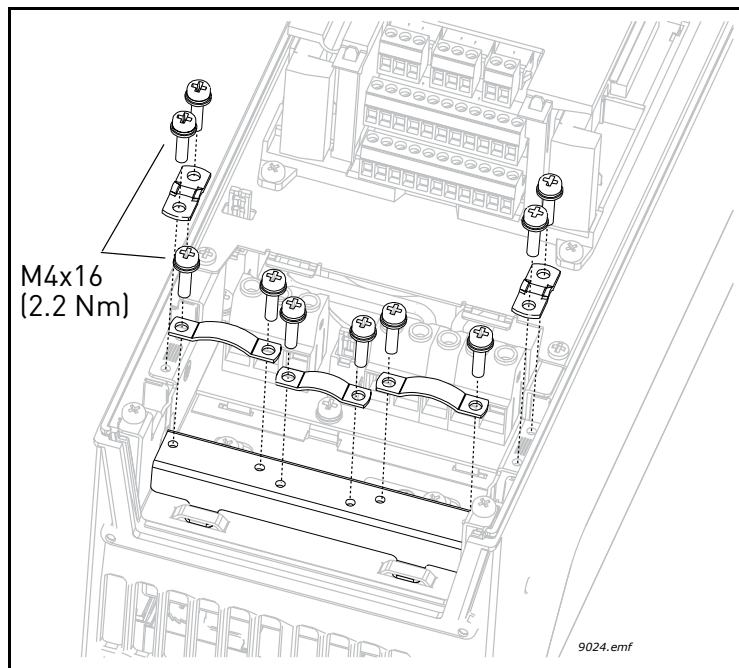
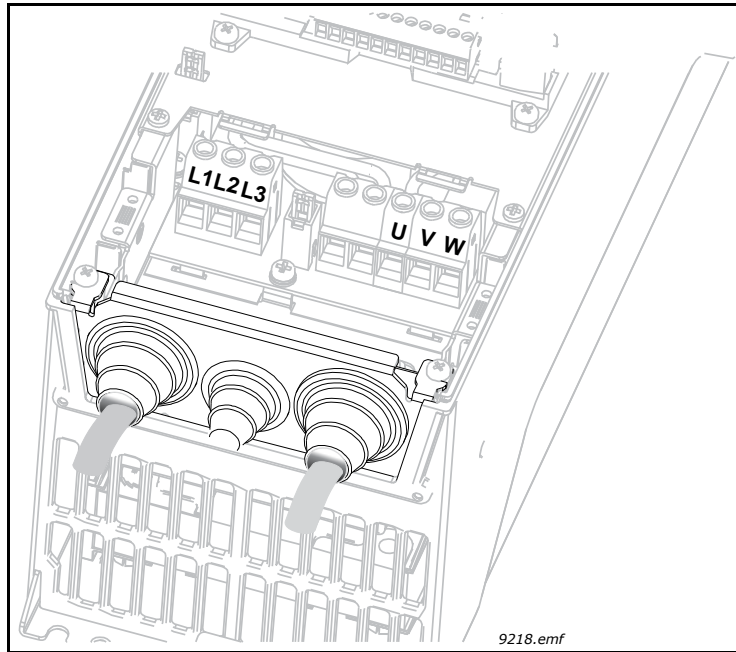

Figure 19.
Figure 20.
**6** Detach the cable clamps and the grounding clamps (Figure 19) and place the cable entry plate with the cables in the groove on the drive frame (Figure 20).